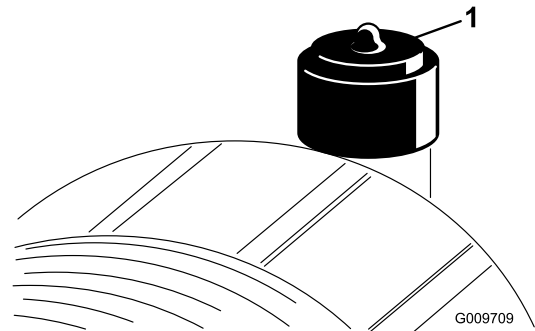

Figure 44
Service the air-cleaner filter only when the service indicator (Figure 44) requires it. Changing the air filter before it is necessary only increases the chance of dirt entering the engine when you remove the filter.
6. Reset the indicator (Figure 44) if it shows red.